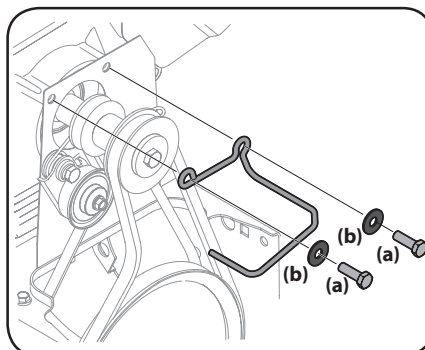

Figure 4-16
3. Loosen and remove two bolts (a) and flat washers (b) securing belt guide. Remove belt guide. See Figure 4-16.